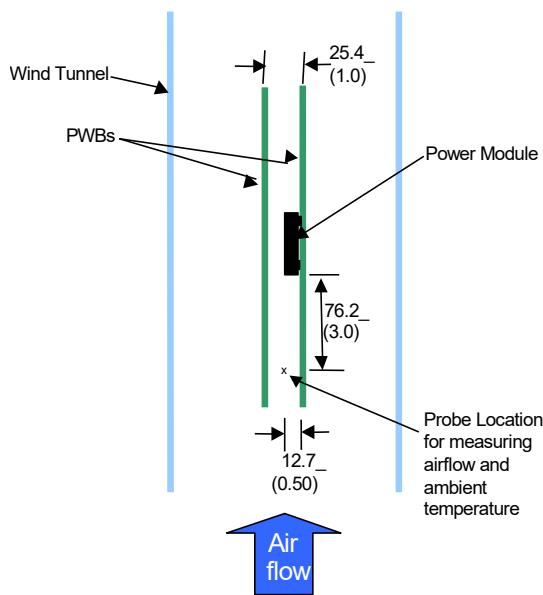

Figure 34. Thermal Test Setup.
Power modules operate in a variety of thermal environments; however, sufficient cooling should always be provided to help ensure reliable operation. Considerations include ambient temperature, airflow, module power dissipation, and the need for increased reliability. A reduction in the operating temperature of the module will result in an increase in reliability. The thermal data presented here is based on physical measurements taken in a wind tunnel. The test set-up is shown in Figure 34. The preferred airflow direction for cooling the module and the thermal reference points, T_{ref} used in the specifications are shown in Figure 35. For reliable operation the temperatures at these points should not exceed 120°C (IC300) and 115°C (C202). The output power of the module should not exceed the rated power of the module ($V_{o, set} \times I_{o, max}$). Please refer to the Application Note "Thermal Characterization Process for Open-Frame Board-Mounted Power Modules" for a detailed discussion of thermal aspects including maximum device temperatures. Increased airflow over the module enhances the heat transfer via convection. The thermal derating of figures 2, 8, 14 and 20 show the maximum output current that can be delivered by each module in the indicated orientation without exceeding the maximum T_{ref} temperature versus local ambient temperature (TA) for several air flow conditions. The thermal derating curves were generated using a 12 layer evaluation board with 3oz copper in inner layers and 2 oz in outer layers.